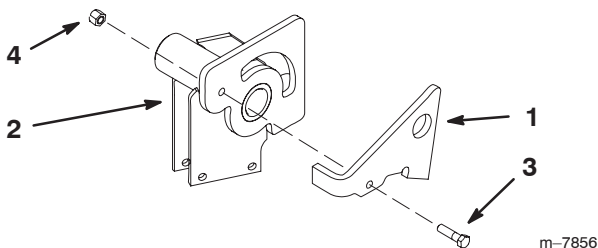

Figure 1
1. Install the bracket latch to the Z Stand hub with a bolt (3/8 x 1-1/2 inch) and lock nut (3/8 inch) (Fig. 1).
Note: Tighten the nut and bolt. Then, unscrew it one full turn or until the latch will freely rotate (Fig. 1).